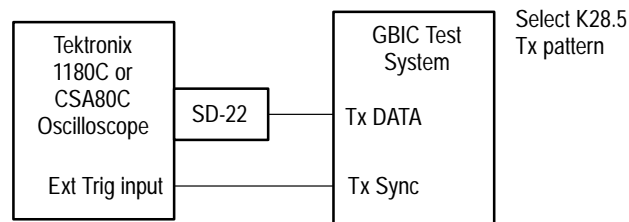

Figure 27: Tx Data Deterministic Jitter Test Setup
3. Connect an SMA cable between the Tx DATA output of the GBIC Test System and the SD-22 input of the oscilloscope as shown in Figure 27.